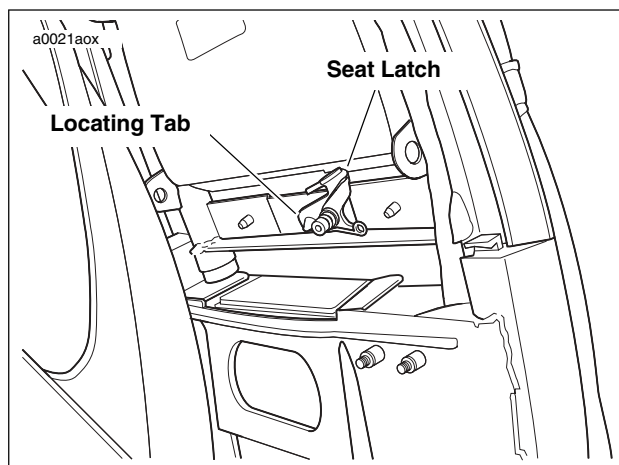

Figure 2-106. Seat Latch
1. See Figure 2-106. Push or pull the seat latch toward the front of the motorcycle with your thumb.